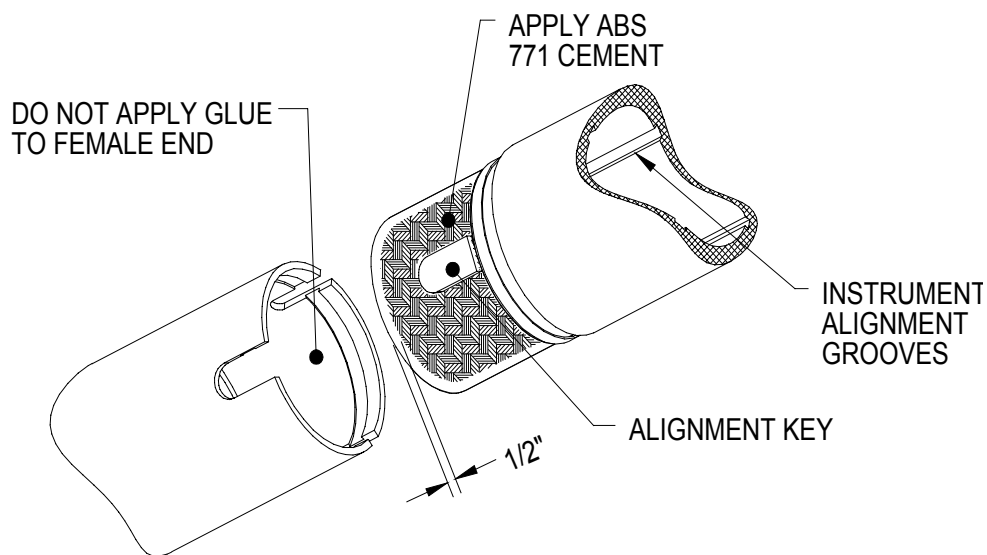

Figure 3 – Typical Casing Joint
5. Allow the glue to set and proceed by adding additional casing sections by lining up the Alignment Key in the Coupling with the notch on the end of the repair coupling (see Figure 3).
7. Apply a thin layer of ABS Cement to end of the next piece of casing as shown in Figure 3. Subsequent casing sections in a borehole should be assembled using ABS cement on the **male end only**. Applying cement to the female end can potentially block the grooves, thus fouling the inclinometer probe. In each case, the alignment button on the casing should be aligned with the notch in the female end (Figure 3). If assembly of the joint is difficult, an ABS/PVC cleaner can be used prior to the application of the ABS cement. The cleaner not only cleans the pipe, but helps to soften the ABS lessening the force required to complete the joint.